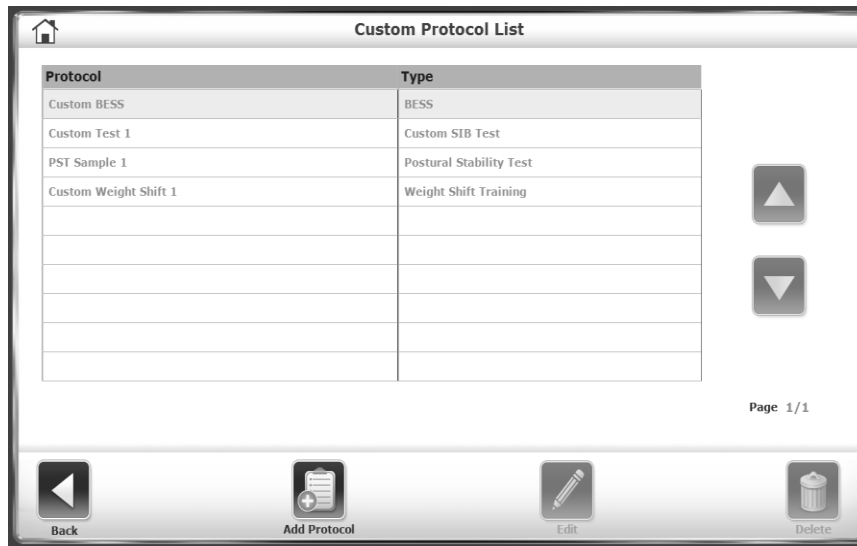

Figure 7.13. Custom Protocol List Screen.
Use Custom Protocol List to add, edit, or delete customized testing or training protocols (see Figure 7.13).
5. The Custom Protocol list is displayed (see Figure 7.13).